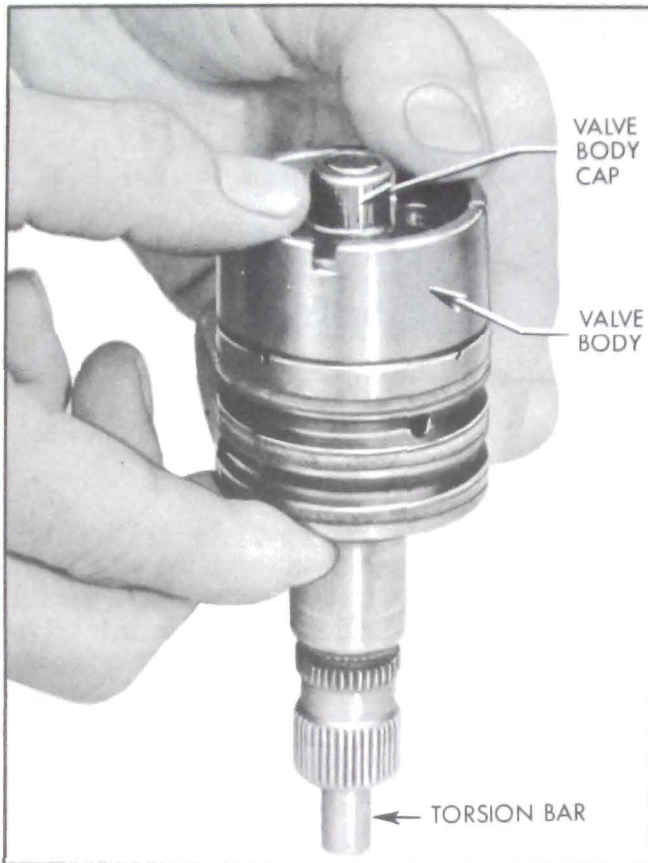

Figure 8-46—Disassembly of Valve Assembly
4. Remove the stub shaft, torsion bar and cap assembly by holding the valve assembly with stub shaft downward as shown and rapping torsion bar lightly against work-bench to dislodge the cap from valve body to cap pin. See Figure 8-46. Complete the removal of the stub shaft torsion bar and cap assembly.